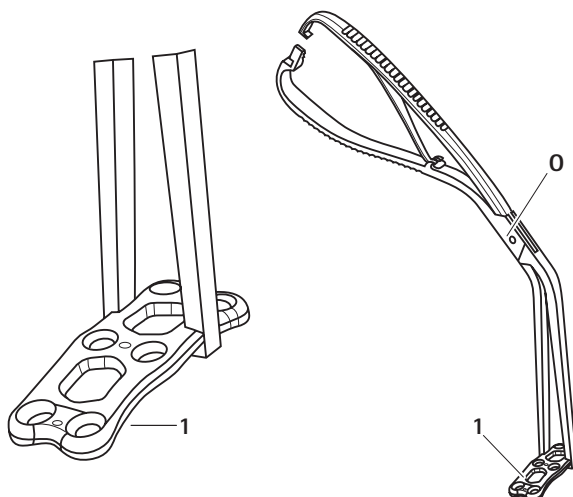

Fig. 4
- ▶ Use the plate holder forceps O to grasp the Quintex® plate 1 by the outer edge, see Fig. 4.